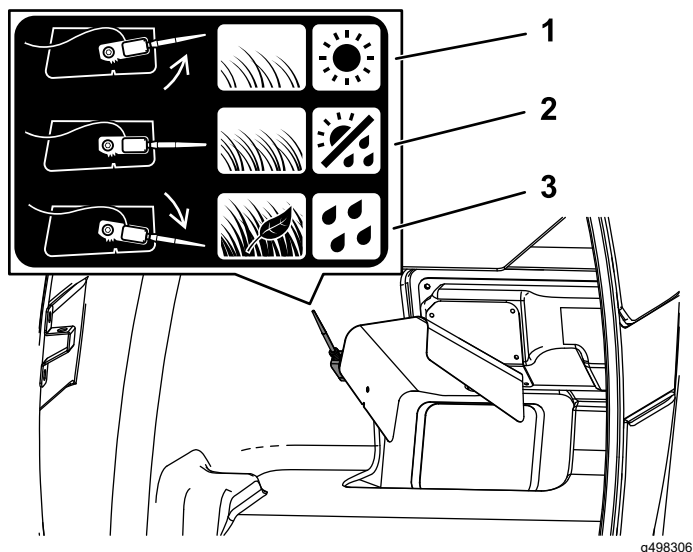

Figure 28
- For normal grass and weather conditions, rotate the sensor to the mid-point position (Figure 28).
- For wet, dense grass conditions, when picking up leaves, or if the hopper fills before the sensor activates, rotate the sensor downward (Figure 28).
- For dry, sparse grass conditions, or if the mower deck disengages before the hopper fills, rotate the sensor upward (Figure 28).